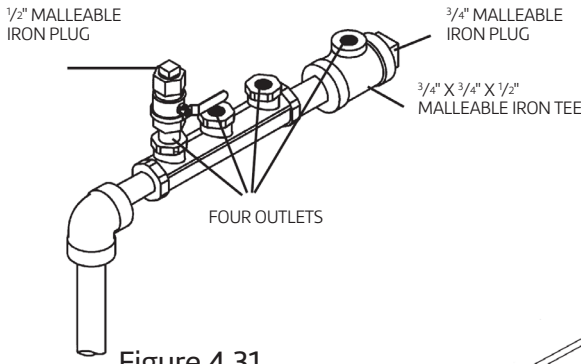

Figure 4.31
- A. Manifolds are used where multiple tubing runs are made from a common location forming a parallel system configuration. Manifolds may be a one piece unit manufactured from malleable iron or brass. They may also be constructed as a welded fabrication of steel and subcomponents and brass or malleable iron tees connected with pipe nipples. See Figures 4.31 and 4.32 on the next page for examples of manifolds.